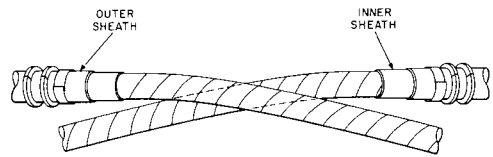

Fig. 8—2-1/4 Inches of Outer Jacket Removed
**3.08** Remove 2-1/4 inches of outer jacket and underlying metal up to tape markers as illustrated in Fig. 8. Then remove inner tape markers.